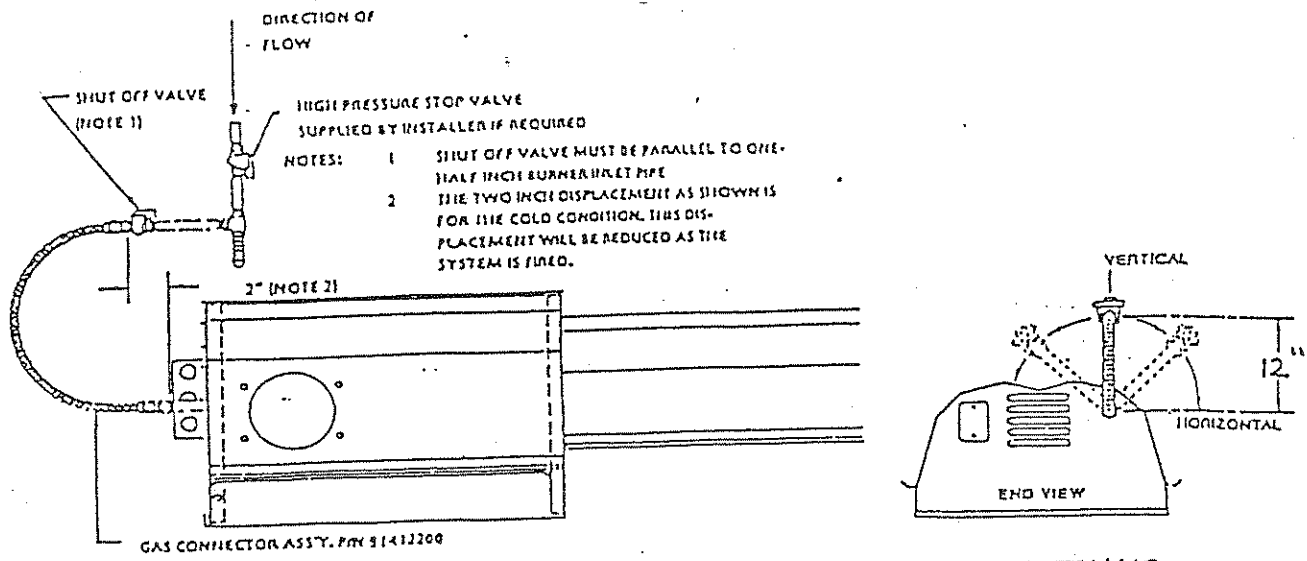

FIGURE 8 GAS LINE CONNECTION TO BURNER WITH FLEXIBLE METALLIC CONNECTOR ASSEMBLY
A drip leg consisting of a tee, nipple, and pipe cap, which forms a trap for dirt and moisture, must be attached to the gas line as shown in Figure 8. A 1/8" N.P.T. plugged tapping, accessible for a test gauge connection, must be supplied immediately upstream of the gas supply connection of the appliance.
- ✓ Supply gas pressure can be checked at 1/8" NPT pressure tapping on heater external manual valve (see figure 8).